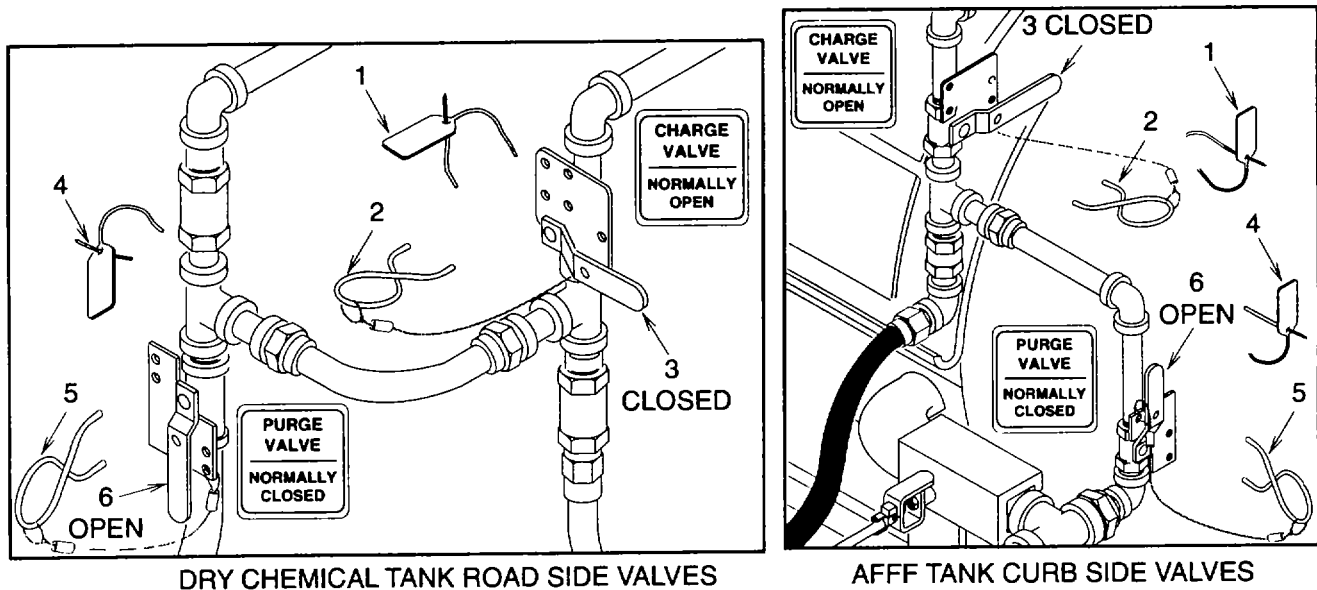

Figure 2-16. Ball Valve Settings for Clearing Hoses
- (3) Break strip ties (1) (fig. 2-16). Remove retaining clips (2) and close charge ball valves (3)
- (4) Break strip ties (4). Remove retaining clips (5) and open both purge ball valves (6)